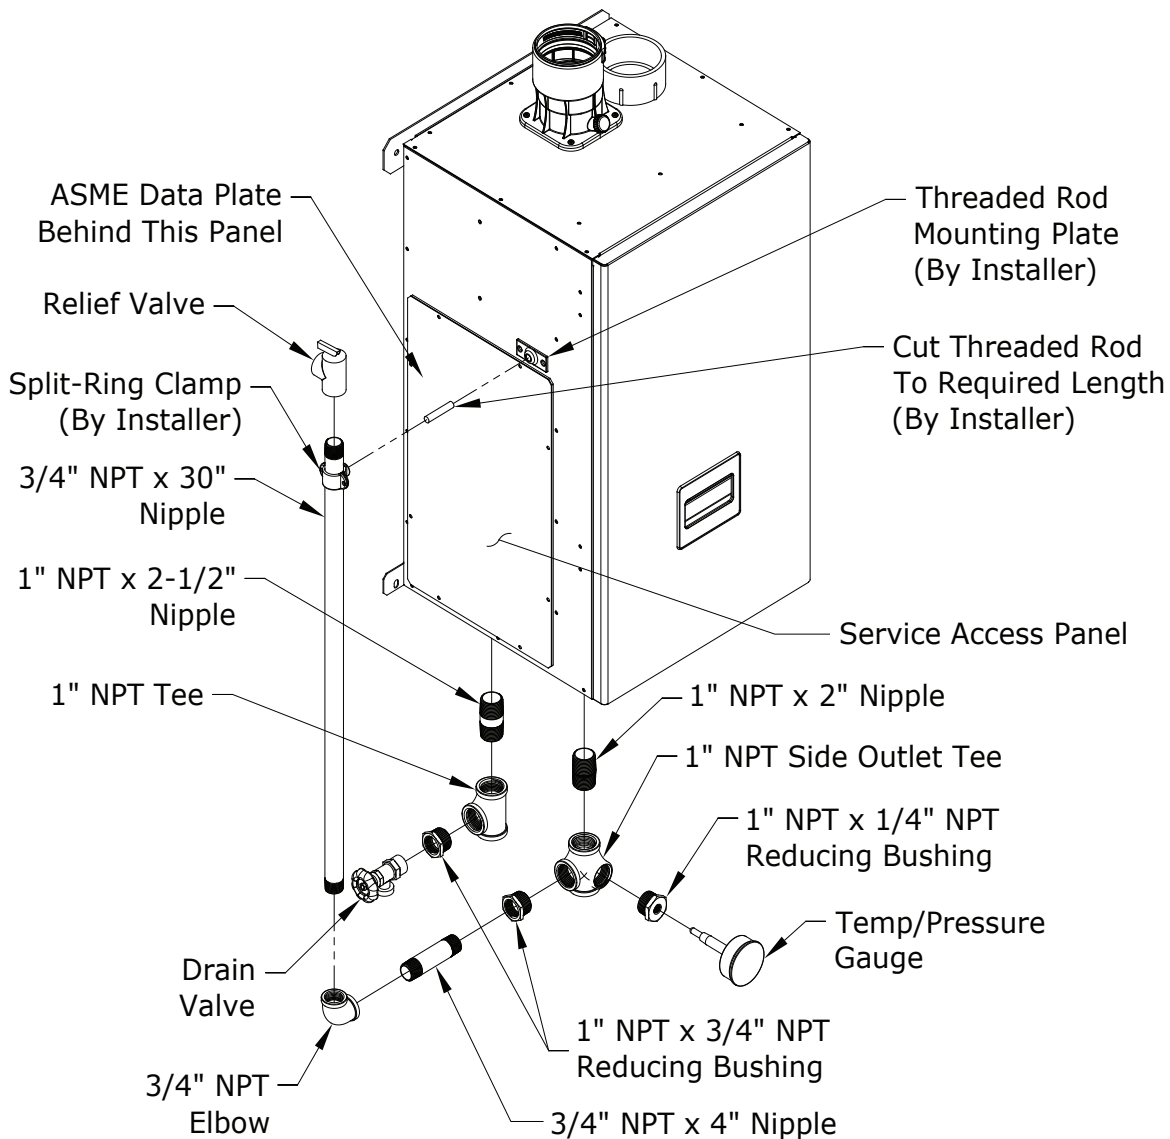

Figure 9.9: Factory Supplied Piping and Trim installation
- 1) Relief Valve (Required) – The relief valve is shipped loose and must be installed in the location shown in Figure 9.9, using the side outlet Tee and other fittings provided. ASME Section IV currently requires that this relief valve be installed above the heat exchanger as shown. Pipe the outlet of the relief valve to a location where water or steam will not create a hazard or cause property damage if the valve opens. The end of the discharge pipe must terminate in unthreaded pipe. If the relief valve discharge is not piped to a drain, it must terminate at least 6” above the floor. Do not run the discharge piping through an area that is prone to freezing. The termination of the relief valve must be in an area where it is not likely to become plugged by debris.
The relief valve supplied with the boiler is set to open at 30 psi. If it is replaced, the replacement must have a setting less than or equal to the maximum allowable working pressure (MAWP) shown on the ASME data plate located on the left side of the heat exchanger behind the service access panel (Figure 9.9).
- 2) Gauge (Required) - Indicates supply water pressure and temperature. This gauge is shipped loose. Install it as shown in Figure 9.9.
- 10) Drain Valve (required) – Install the drain valve supplied as shown in Figure 9.9.